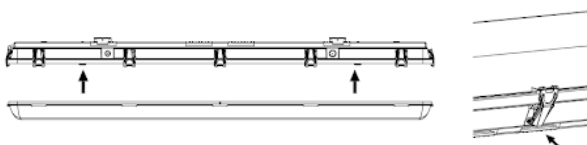

Fig. 5
6. Fasten and secure lens cover using latches (Fig. 5).